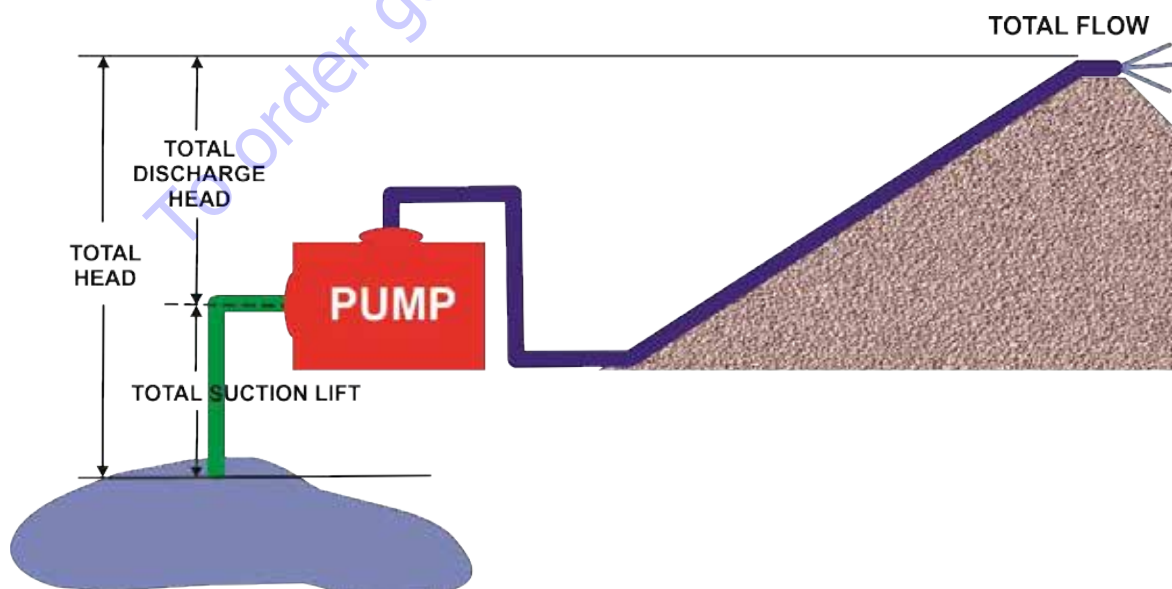

Figure 8. Pump Placement
1. It is advantageous to place the pump as close as possible to the water source (Figure 8) on a solid, level operating surface. The most critical factor for successful pump operations is not to exceed 25' Total Suction Lift (at sea level).